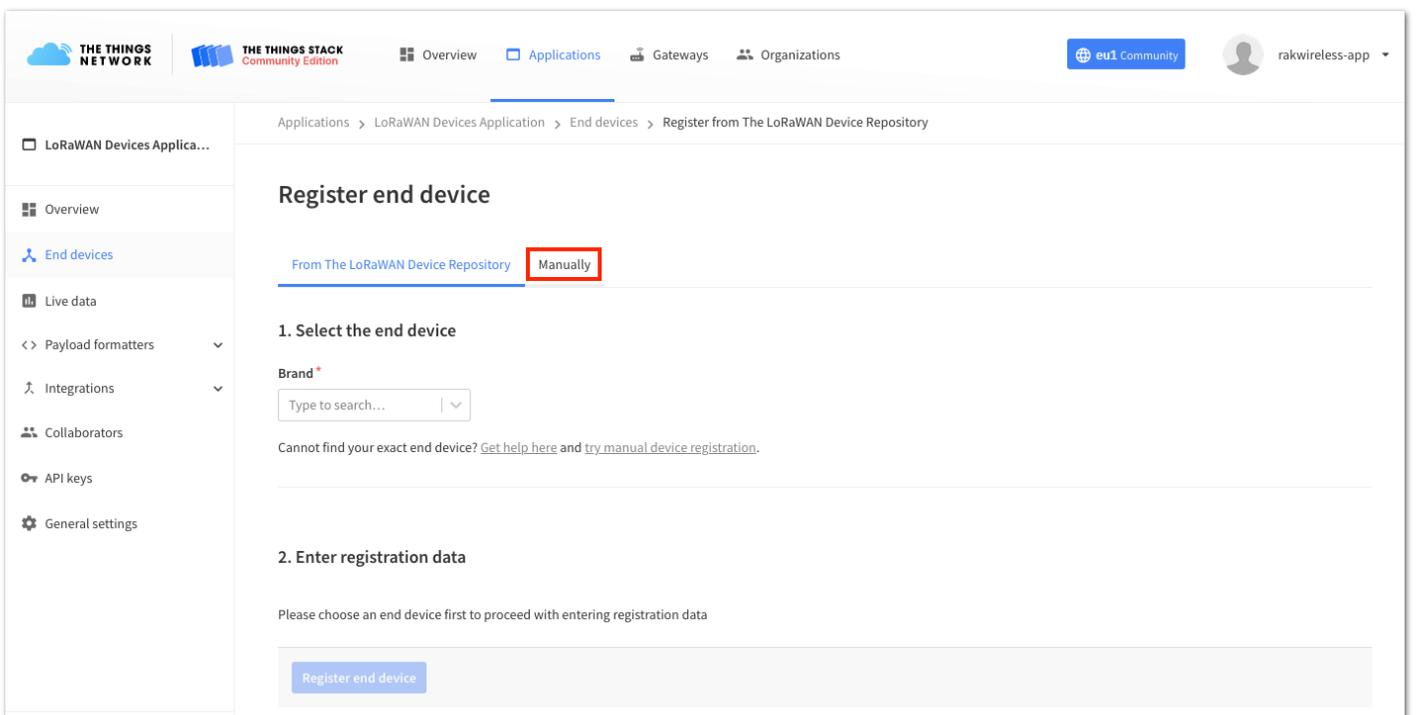
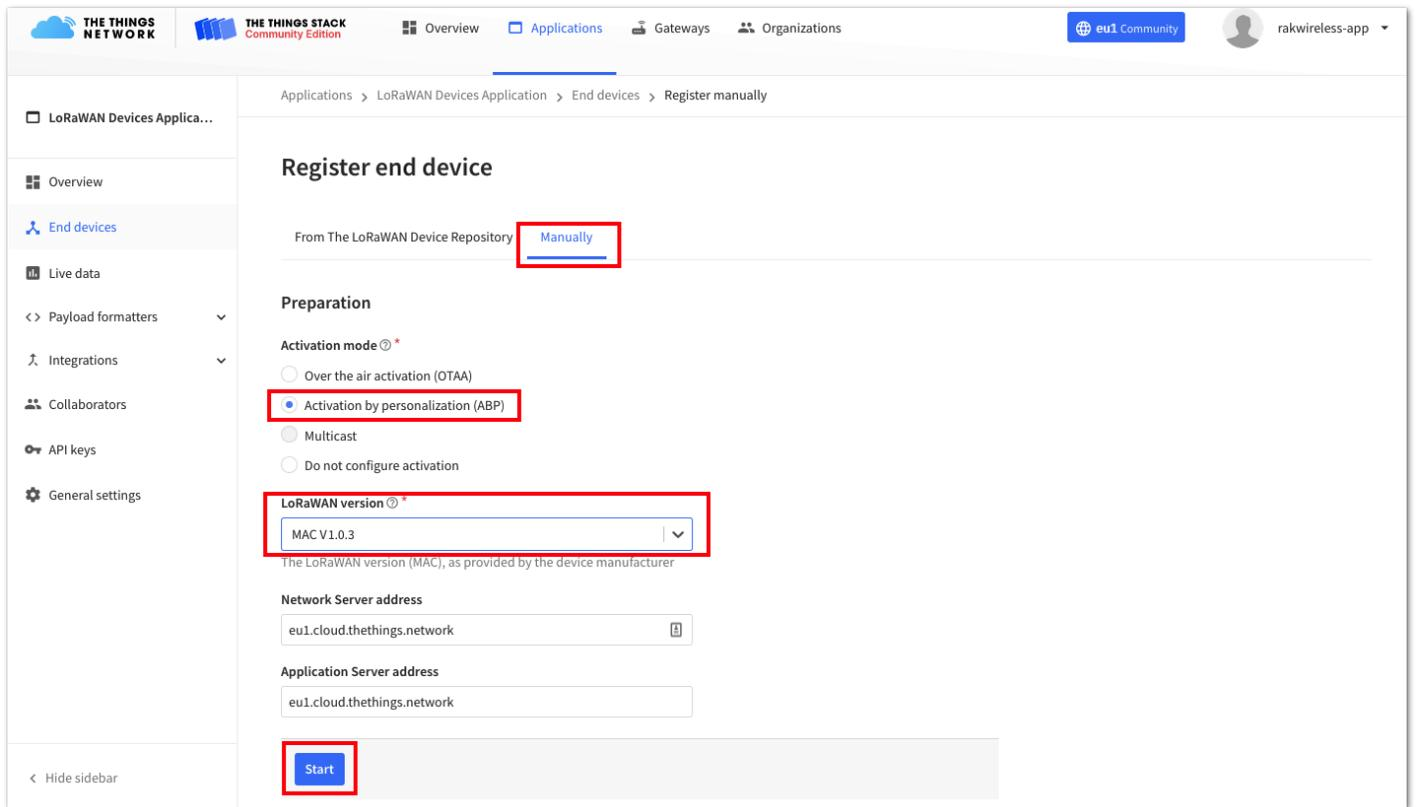

Figure 59: Manually register device to TTN
Figure 60: Selecting ABP and LoRaWAN version
2. To register the module, you need to click first **Manually** then configure the activation method by selecting **Activation by personalization (ABP)**, compatible **LoRaWAN version**, and click the **Start** button, as shown in **Figure 59** and **Figure 60**.